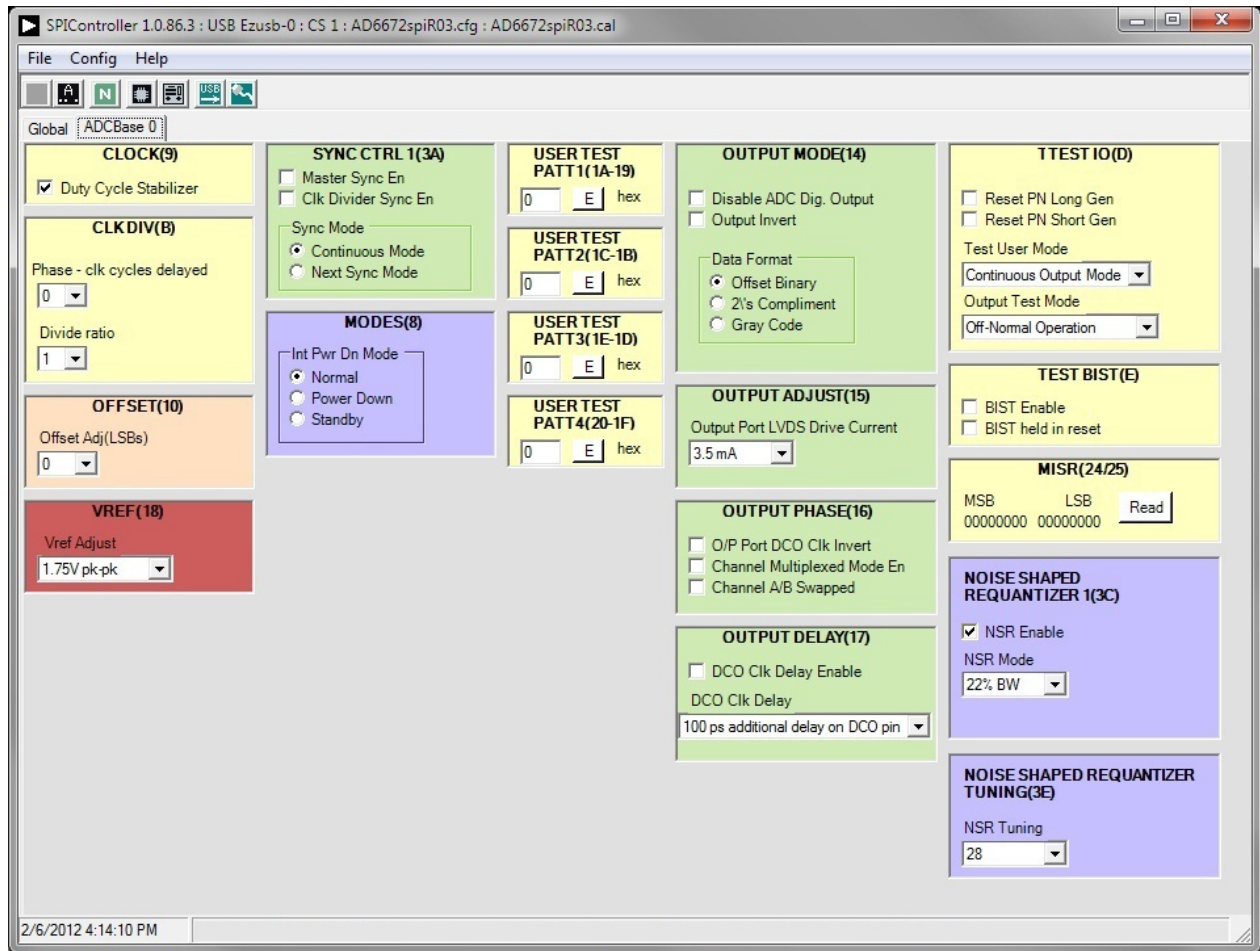

Figure 11. SPI Controller, Example ADCBase 0 Tab—NSR Settings for the AD6672
- If using the noise shaping requantizer (NSR) feature of the AD6672, the settings in the ADCBase 0 tab must be changed (see Figure 11). The **NSR Enable** checkbox must be selected under the **NOISE SHAPED REQUANTIZER 1(3C)** section. This enables the circuitry in the AD6672. To select the bandwidth mode, use the **NSR Mode** drop-down box in the **NOISE SHAPED REQUANTIZER 1(3C)** section. Upon selecting the bandwidth mode, select the desired tuning word in the **NSR Tuning** drop-down menu under the **NOISE SHAPED REQUANTIZER TUNING(3E)** section.